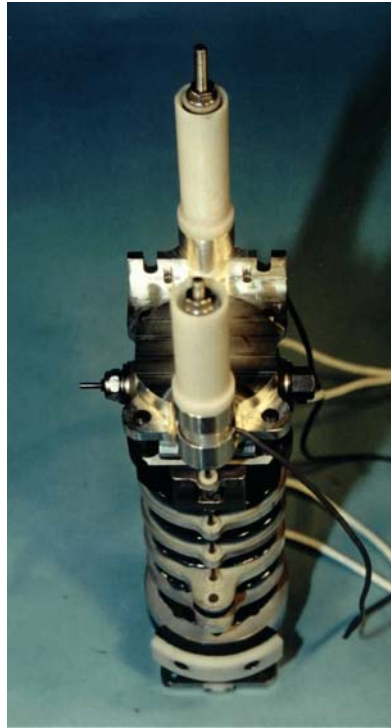

Figure 5.14- Completed assembly to this point
19. Pass the Condyle bolt through the Neck / Head Mounting Platform (T1NKM210) and Upper Neck Load Cell from the left side. Secure the Condyle bolt with the following hardware: Friction Washer (T1NKM012), Neck Key Washer (T1NKM011), two Curved Disk Spring washers, a #10 flat washer, and a 1/4-20 nylock nut. Torque the nut to 7 ft-lb. This completed assembly is shown in **Figure 5.14**.